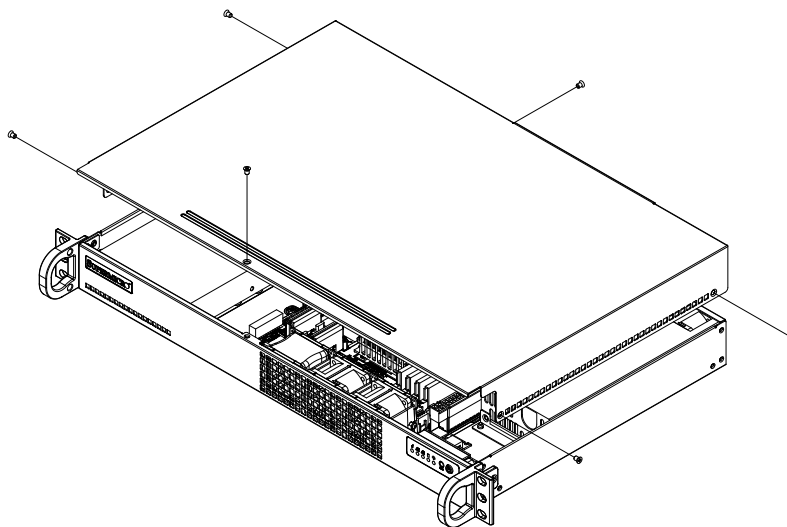

Figure 3-1. Removing the Chassis Cover
3. Lift the cover upward to remove it from the chassis. See Figure 3-1.